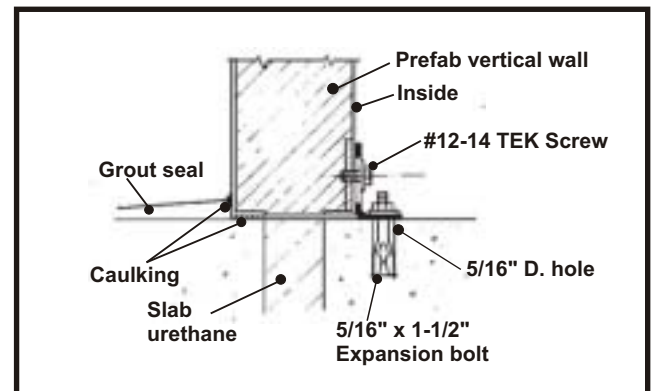

Fig. 26
- D. If this is an outdoor installation, install grout seal as shown in Fig 26. Caulk top edge of seal as indicated.